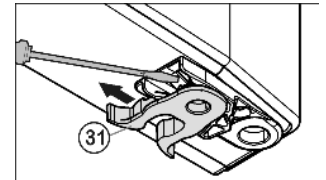

Fig. 7
- ▶ Transfer the spring clamp Fig. 7 (31). Depress the latch nose and pull the spring clamp off over it.